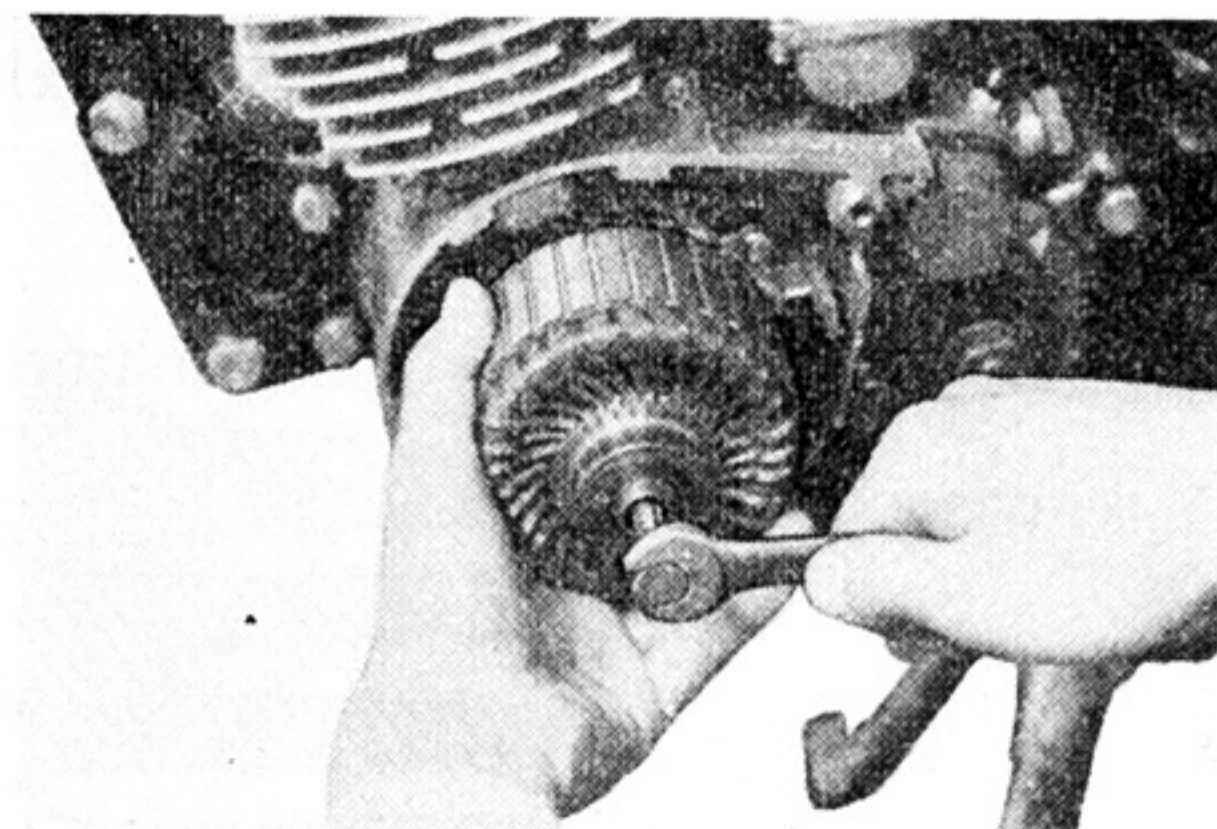

Fig. 3-1-6
(3) Remove the armature by the use of the armature puller bolt. (Fig. 3-1-6)